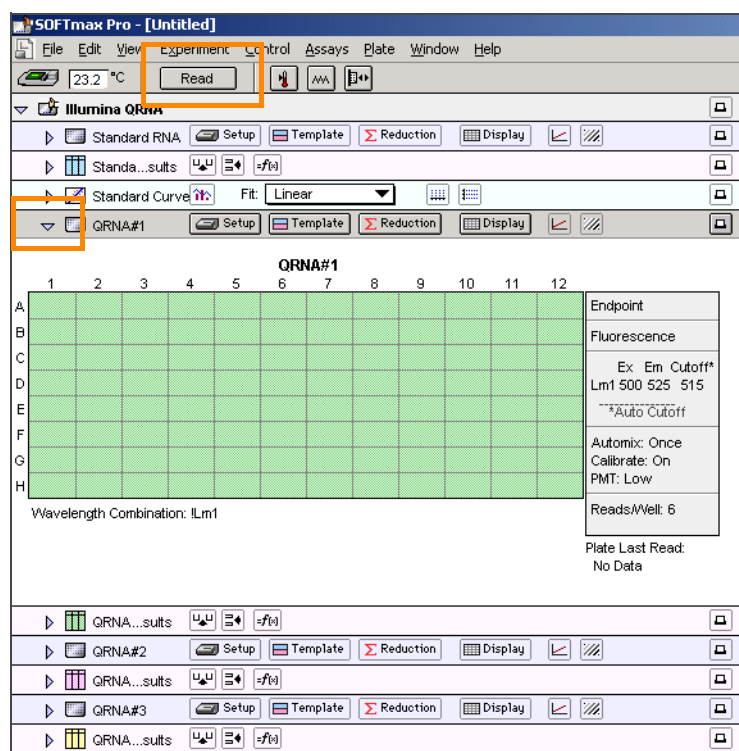

Figure 20 Read the Sample QDNA Plate
11. Click the blue arrow next to **QDNA#1** then click **Read** (Figure 20).